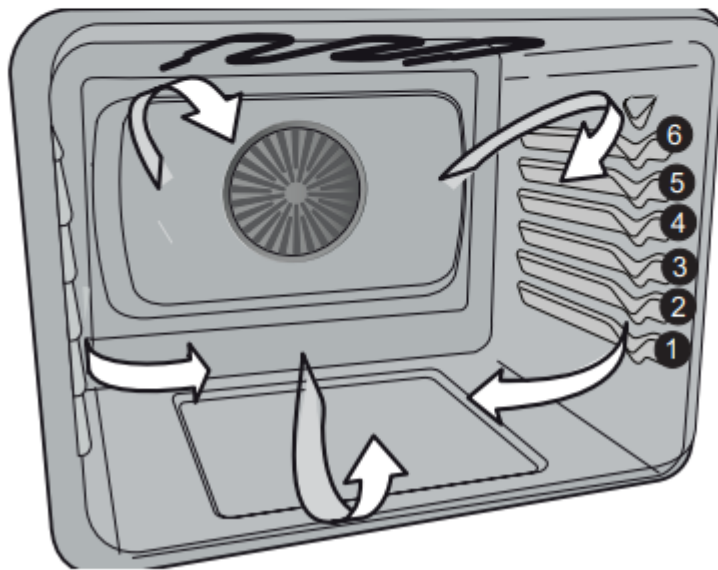

Figure 8: Oven rack positions
2. Press self clean to toggle between 12-Hr day or 24-Hr day display modes (Figure 8).